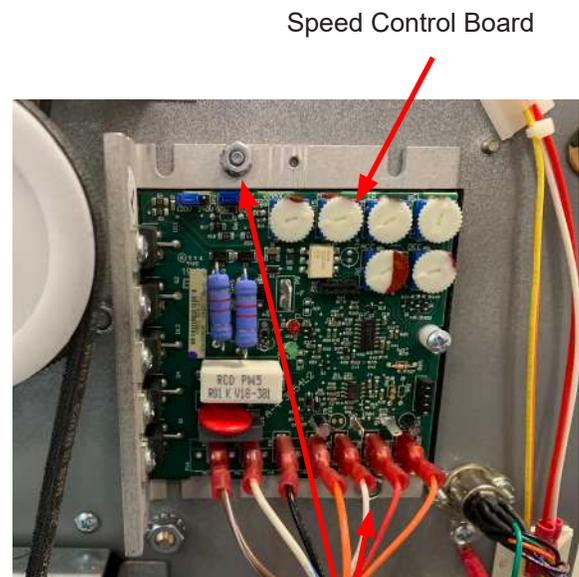

Fig. 60
3. Unplug the electrical connections from the board. Note the position of each connection (Fig. 60),